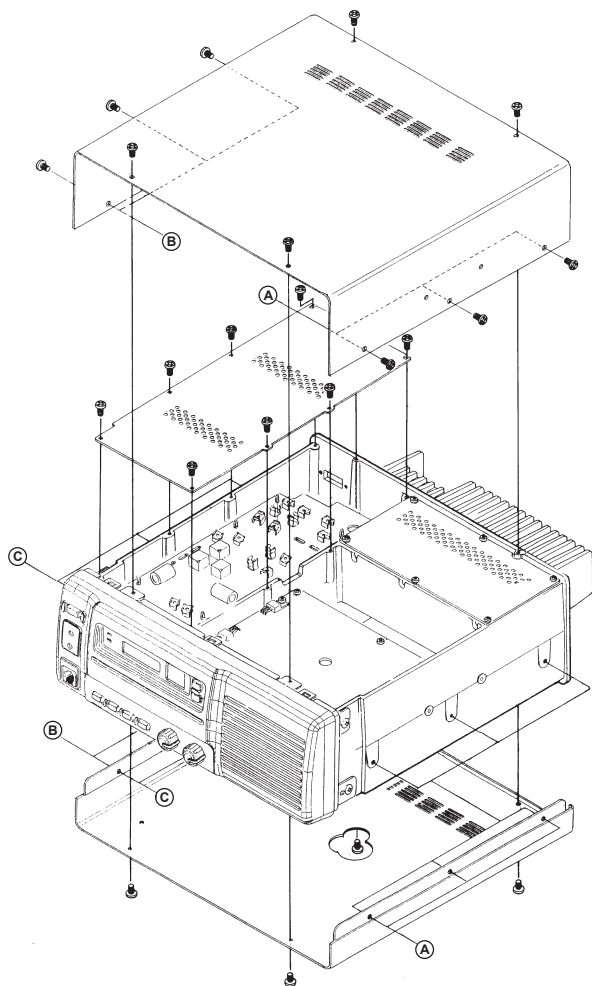

Figure 1
- ❑ Referring to Figure 1, remove the 14 screws affixing the top and bottom covers of the repeater, and remove the covers.
- ❑ Remove the eight screws affixing the shield cover for the FILTER Unit, and remove the cover (see Figure 1).